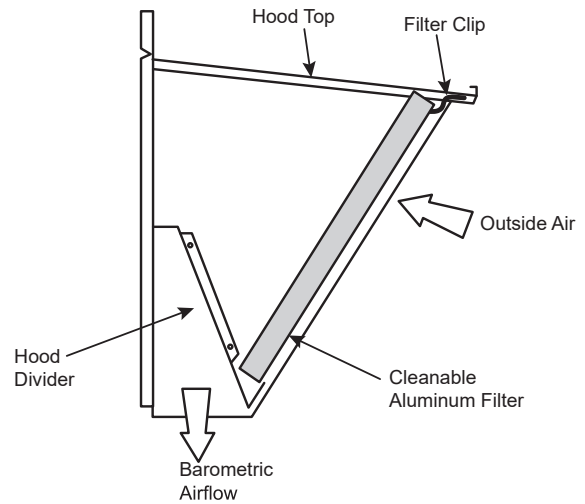

Figure 19 – Fully Assembled Hood
Step 23: Install aluminum filter(s) in economizer hood. Clips at top of hood will hold filters in place. See Figure 19.